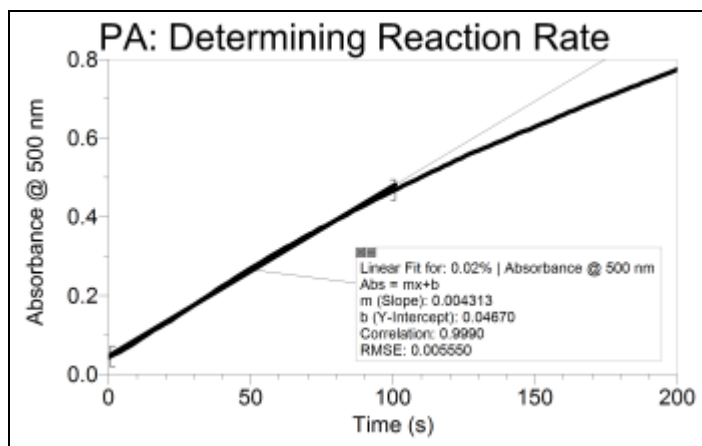

Figure 1 Reaction rate (initial velocity) of the peroxidase catalyzed reaction
- Answers will vary. The reaction rate determined in Figure 1 is 0.004313 absorbance/s.